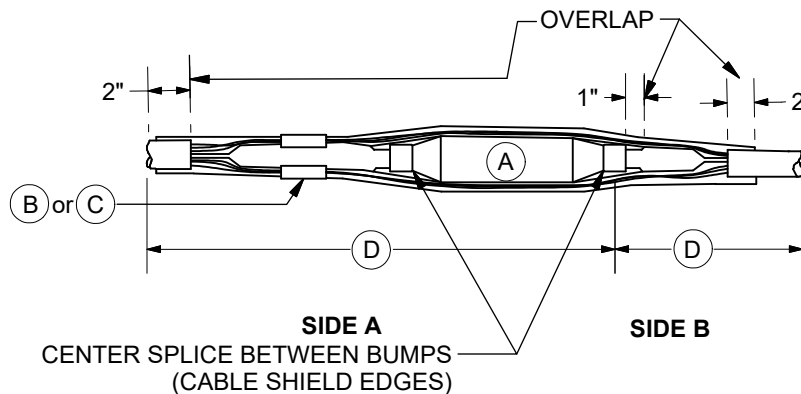

Figure 3
10. Lubricate insulation and semi-con shield of Cable B with silicone grease. Slide splice body onto Cable B and into final position over the connector. Use the bumps formed on the splice ends as guides for centering. See Figure 3.
11. Connect concentric with two sleeves on Side A. Place five and six wire bundles into connectors. Crimp the sleeves. Snug sleeves and wires tightly against splice and cable. See Figure 3. The 4/0 single phase cable with twenty #12 concentrics requires three wire bundles and three #2 sleeves.